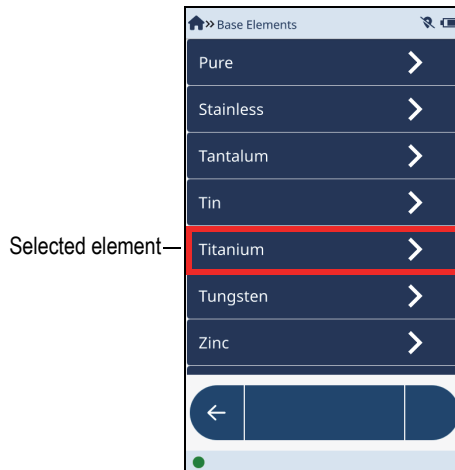

Figure 2-60 Base Elements screen — Selected element
1. In the **Pass Fail** section of the **Grade Match** screen, tap the arrow to open the **Base Elements** screen (see Figure 2-60 on page 76).